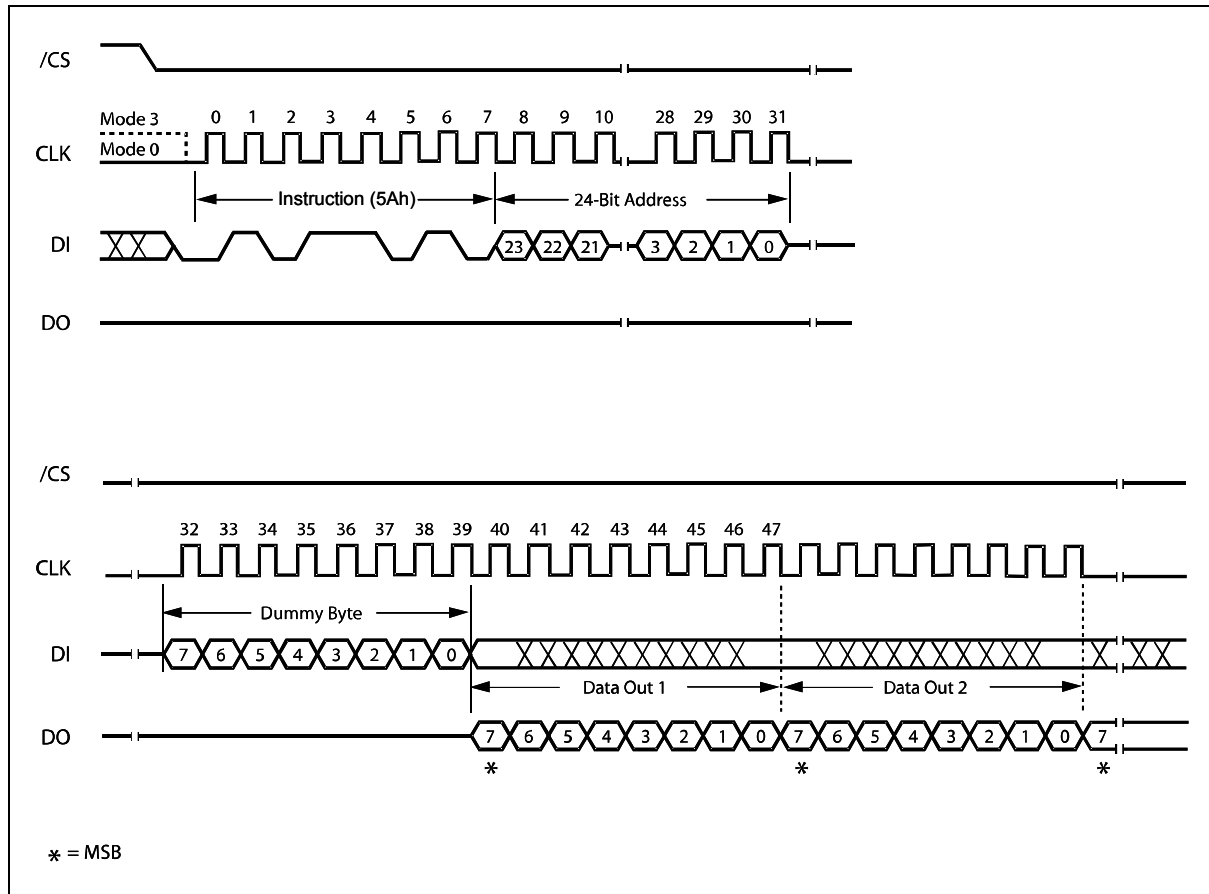

Figure 34. Read SFDP Register Instruction Sequence Diagram
The Read SFDP instruction is initiated by driving the /CS pin low and shifting the instruction code “5Ah” followed by a 24-bit address (A23-A0)(1) into the DI pin. Eight “dummy” clocks are also required before the SFDP register contents are shifted out on the falling edge of the 40th CLK with most significant bit (MSB) first as shown in figure 34. For SFDP register values and descriptions, please refer to the Winbond Application Note for SFDP Definition Table.